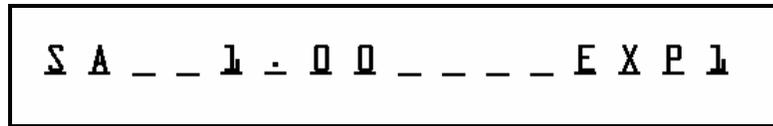

Figure 10: LCD Display for Power On/Reset, with Expansion Hardware
2. Set the power switch to **I** (on). All key lamps and status LEDs light during the power-up sequence. The LCD displays the unit designation (SA), the firmware version, and the number of expansion boards (Figure 10).